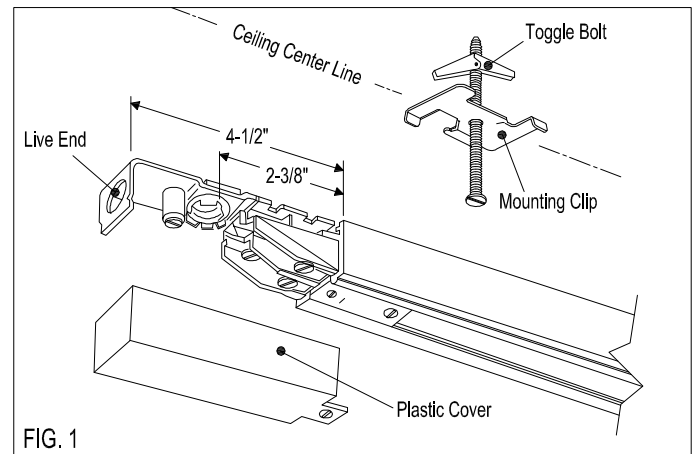

FIG. 1
1. Mark centerline for Track location with chalk or string. (Fig.1)
1. Extend Centerline to length of additional track(s) and fasten additional Mounting Clips (see Section A, Fig.1 & 2).